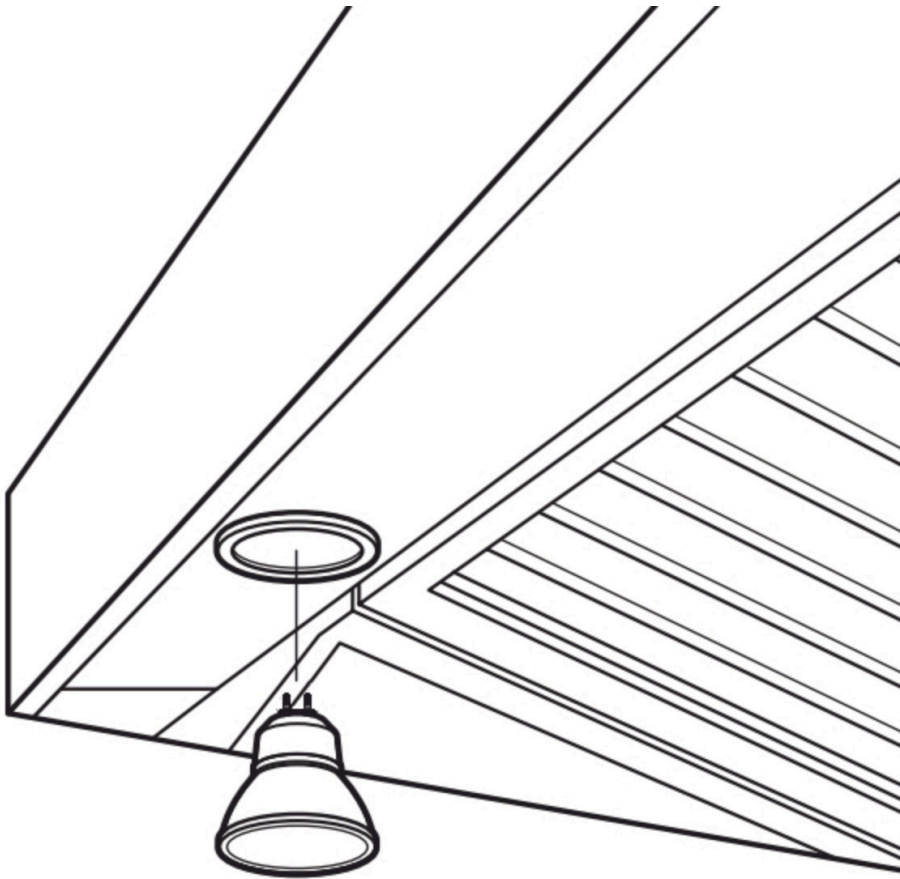

FIGURE 22: LIGHT BULB REPLACEMENT
1. Using the tips of your fingers or fingernails, gently pull the bulb downwards (FIGURE 22).